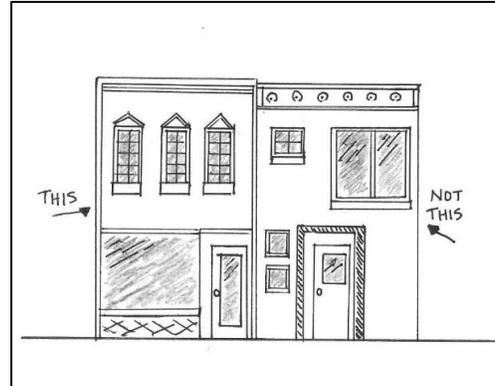

Figure-6. Window Proportions
- Storefront facades should mainly be windows (Figure-6).